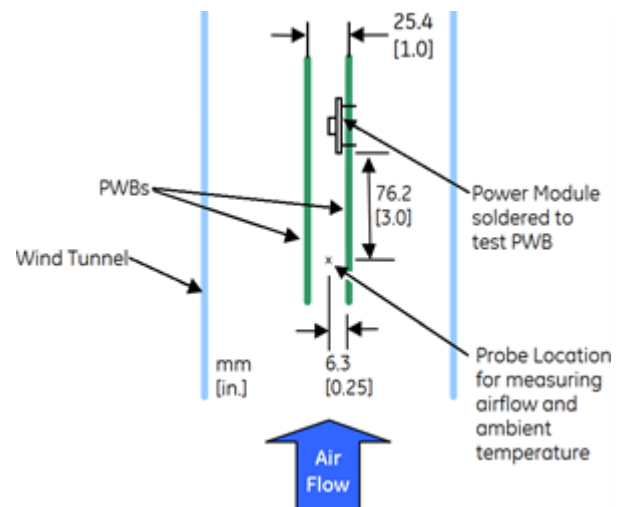

Figure 17. Thermal derating test setup.
The JNCW016A0R module provides a non-latching over temperature protection. A temperature sensor monitors the operating temperature of the converter. If the reference temperature, T_{ref1} , T_{ref2} (see Figure 17) exceeds a threshold of 103°C (typical), the converter will shut down and disable the output. When the base plate temperature has decreased by approximately 20°C the converter will automatically restart. The module can be restarted by cycling the dc input power for at least one second or by toggling the remote on/off signal for at least one second.